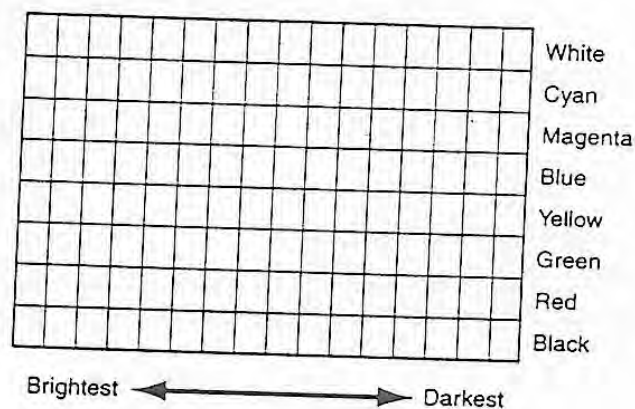

Fig. 4 16-gradation pattern
1. While in the monitor test screen, display GRADATION PATTERN (Fig. 4 "16-Gradation Pattern").
2. Adjust ① CONTRAST (contrast) and ② BRIGHT (luminance) so that each color in the gradation pattern may have 16 clear tinted boxes (with the lower right box 100% black.)